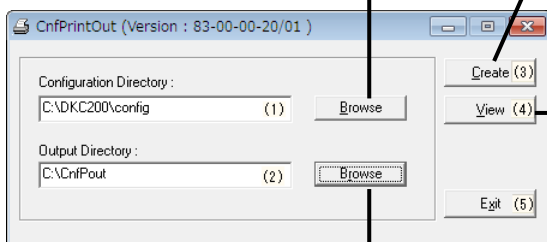

Figure 1 Main Window
When the operation is performed following the starting procedure explained in Section 3.1, the Main window shown in Figure 1 is displayed. A procedure for using it is shown below.
- Note 6: Store the de-compressed dumped data directly under the C drive of the PC as "C:\DKC200\config". Specify the configuration information directory shown in Figure 1 as "C:\DKC200\config".
- Note 8: When a model of the configuration information is mismatched with this tool, the following check screen of the model is displayed. Please use the tool in accord with a model of configuration information. Press the [OK] button, and return to the main screen of Figure 1.